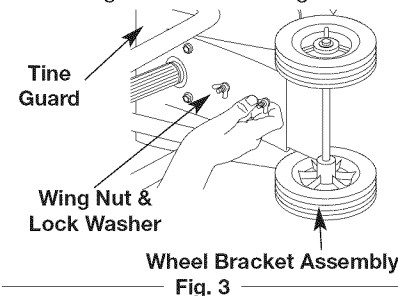

Fig. 3
- With the unit on its side, place the wheel bracket assembly on the underside of the tine guard (Fig. 3).
- On the **TOP** side of the tine guard, install a lock washer and a wing nut onto each of the bolts (Fig. 3).
- Make sure the square shoulder of the bolts is pushed through the slotted holes in the wheel bracket. Tighten the wing nuts (Fig. 3).